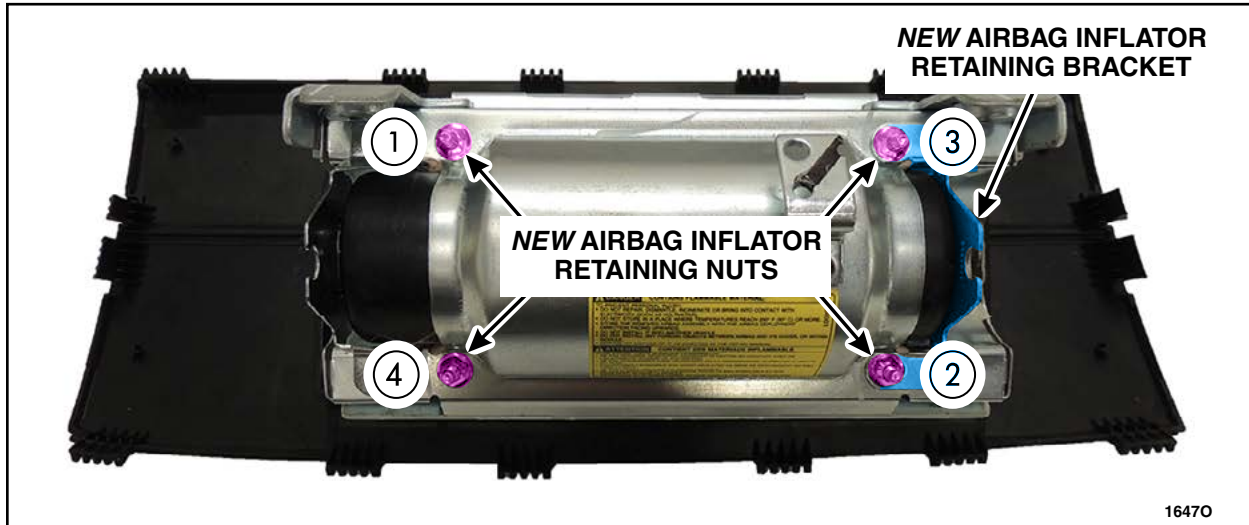

FIGURE 15
10. Install the *new* passenger airbag inflator retaining bracket and *new* nuts. See Figure 15.